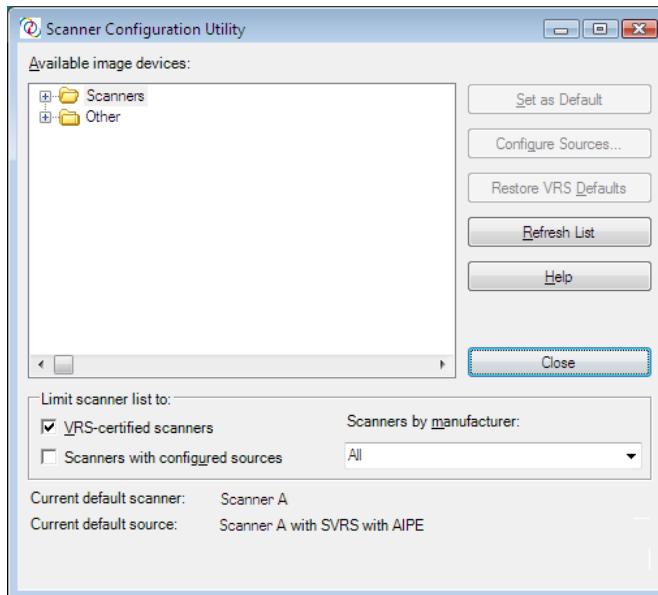

Figure A-1. Scanner Configuration Utility Dialog Box
- 1 From the Start menu, navigate to the Kofax VRS program folder and select the Scanner Configuration Utility. The Scanner Configuration Utility dialog box will display (Figure A-1).